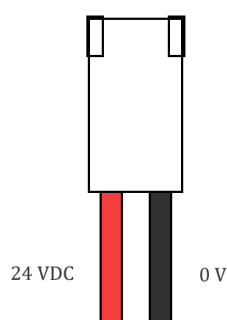

Figure 3.4 – Power connector for the camera
- g) The two pin connector shown in Figure 3.4 makes 24 VDC available for camera power connection; a suitable converter from 24V to your camera's required voltage will need to be provided.